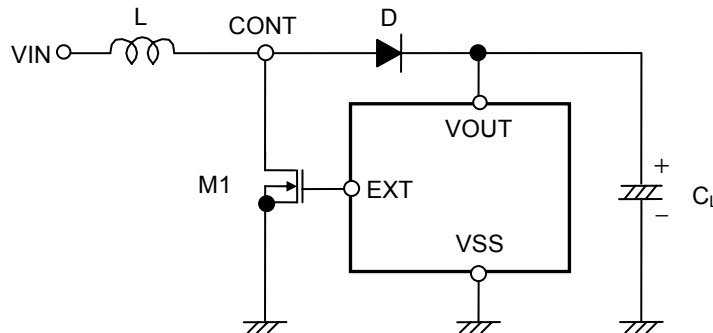

Figure 15 Step-Up Switching Regulator Circuit for Basic Equation
The following are the basic equations [(1) through (7)] of the step-up switching regulator. (Refer to **Figure 15**.)